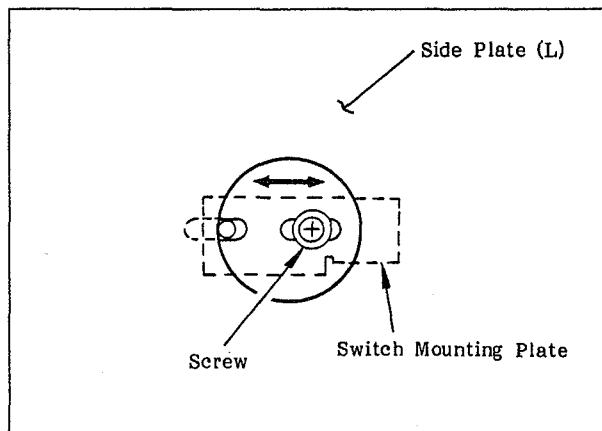
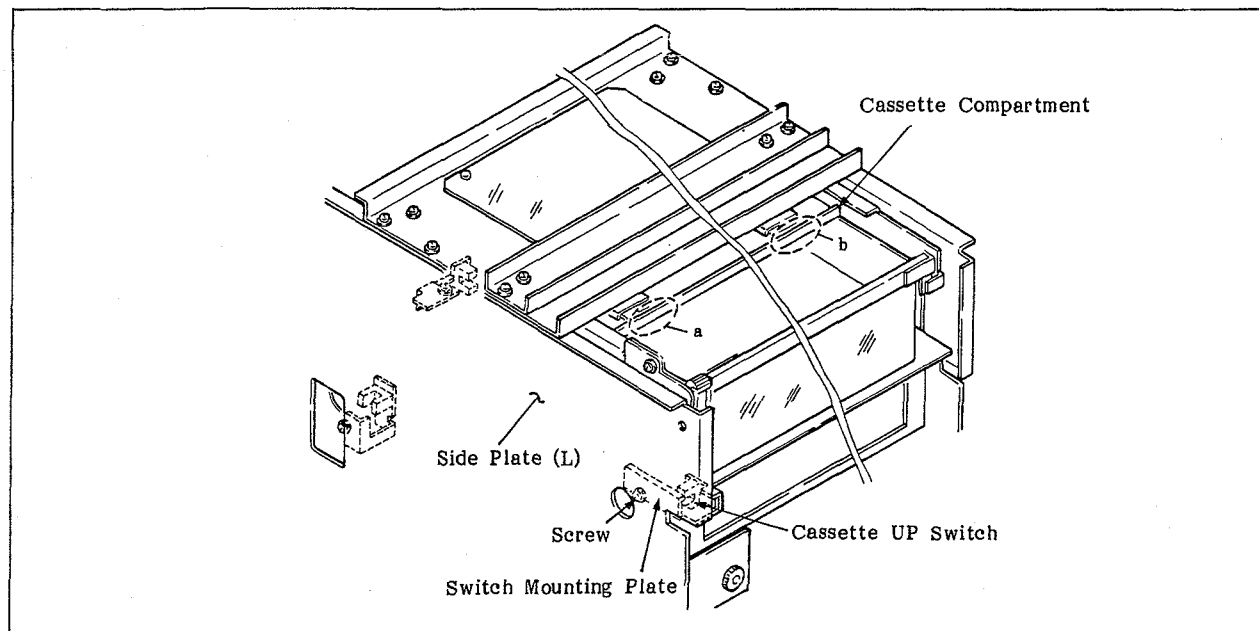

Fig. 6-21 Adjusting the Position of the Cassette UP Switch
Fig. 6-20 Cassette UP Switch
25. Press the **TEST**, **F3**(CHECKER), **F1**(CONTINUE), **F3** (c), **4**, **SET**, **F5** (E), **8**, **SET** keys on the control panel in that order to set the machine in the data check mode.
27. Confirm that there is no play in either portion a or portion b of the compartment shown in Figure 6-20. If there are plays in both portions a and b, loosen the screw that holds the switch mounting plate by a half or one turn, and then slide the switch mounting plate into the direction of the arrow shown in Figure 6-21 by about 0.5 mm. Repeat steps 26 and 27 until the play of the cassette compartment is eliminated.